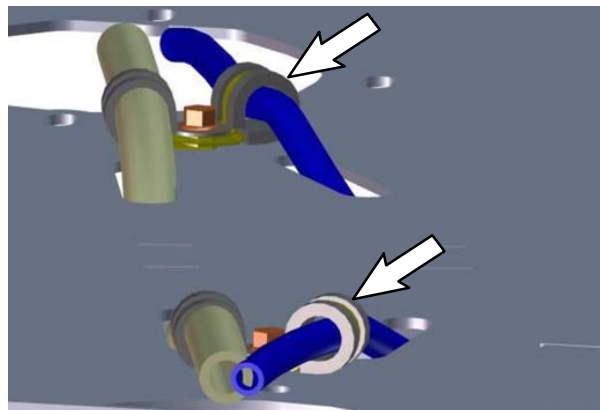

FIG. 17
32. **Machines with disk scrub heads:** Use two insulated cable clamps (39) to secure the two 9.5 in. (241 mm) 0.25 ID PVC hoses to the scrub head. (Fig. 17)